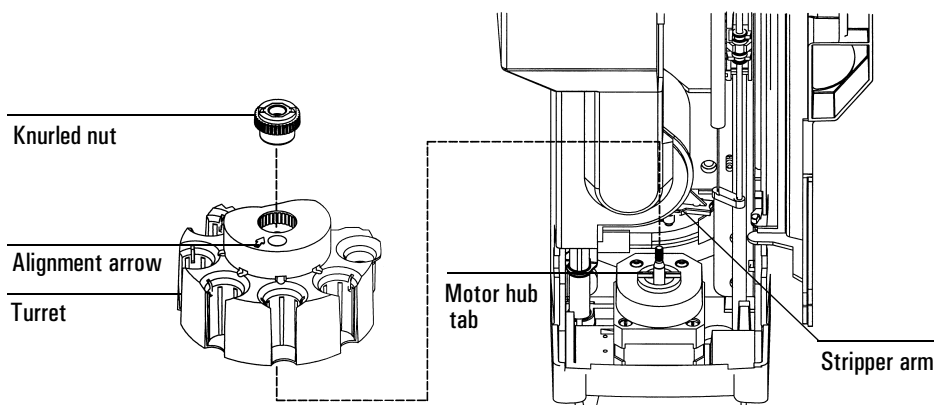

Figure 10 Turret removal
3. Open the injector door. Unscrew and remove the knurled nut from the top of the turret. See Figure 10.
4. Rotate the turret so that the open section faces the back of the tower and the arrow on top of the turret points directly back (see Figure 10). Push the stripper arm toward the back, then lift the turret up so that it clears the center shaft.